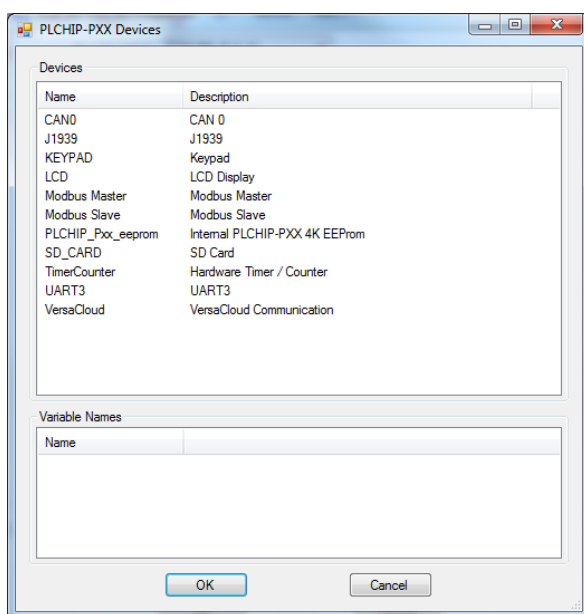

Figure 2-14 - PLCHIP-PXX Devices - VersaCloud
3. Click the **ADD DEVICE** button. The **PLCHIP-PXX Devices** window will open. Locate the **VersaCloud** in the Devices pane of this window. Click / select **VersaCloud** (highlight). Refer to Figure 2-14.